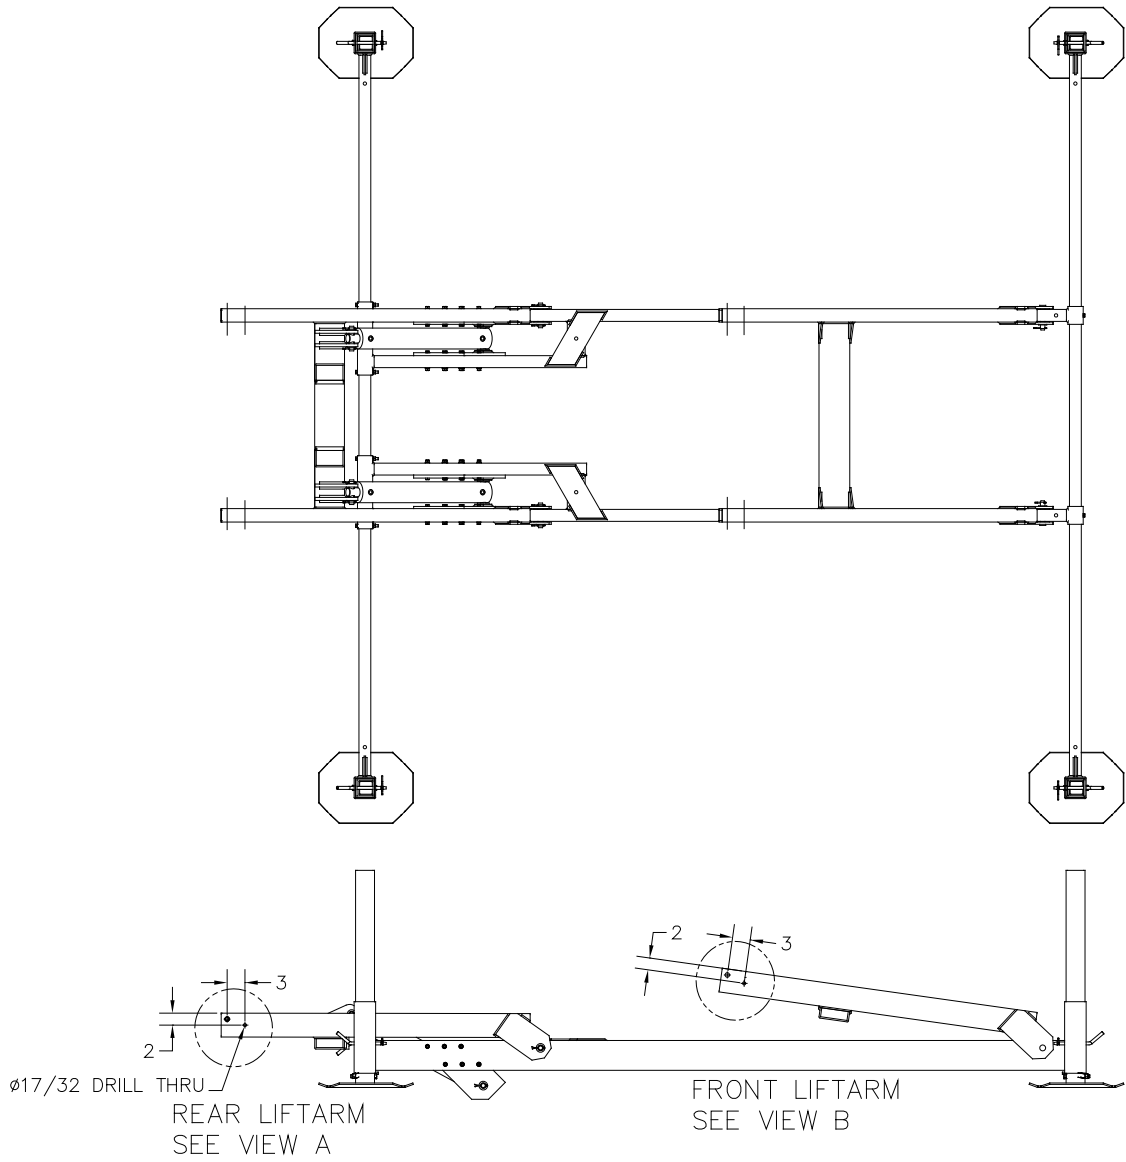

Figure 2-1A.
1. **Refer to Figure 2-1A & 2-2A.** Layout the holes shown in figure 2-1A & 2-2A. Drill 17/32" holes through front & rear liftarms.